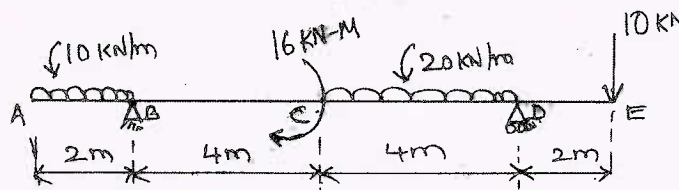

Fig.Q6(b)
b. Draw SFD and BMD for the beam shown in Fig.Q6(b). Locate maximum shear force maximum bending moment and point of contraflexure.